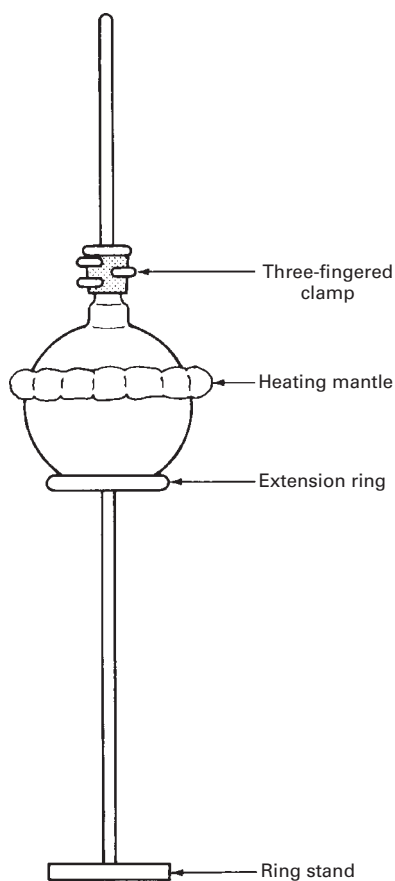

FIGURE 18.4 Flask and heating mantle out on a ring stand.
2. Clamp the flask (around the neck) a few inches up the ring stand (Fig. 18.4). We *are* using heating mantles, and you’ll need the room underneath to drop the mantle in case it gets too hot. That’s why the flask is *clamped at the neck*. Yes. *That’s where the flask is ALWAYS clamped, no matter what the heat source*, so it doesn’t fall when the mantle comes down. What holds the mantle? Extension ring and clamp fastener.